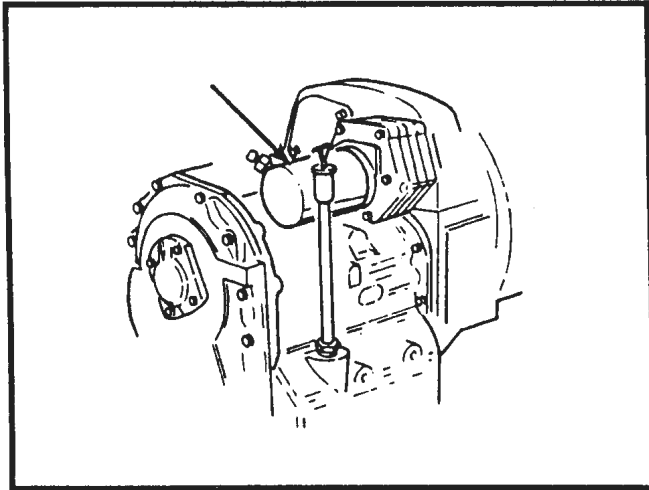

Figure 12-2. Powershift Transmission Oil Filter
3. Remove and discard the transmission oil filter. Install a new oil filter. Apply clean oil to the surface of the gasket of the new oil filter. Turn the filter until the gasket touches the base and then tighten $1/2$ to $3/4$ turn with your hand. Refer to Figure 12-2.